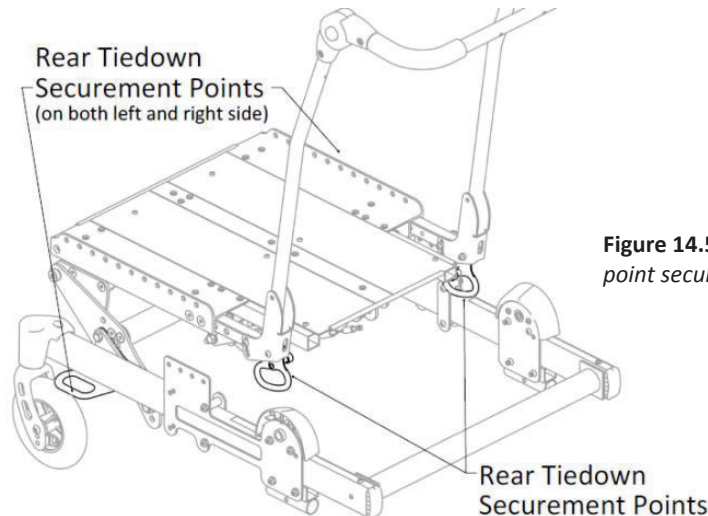

Figure 14.50: Transit Tiedown 4 point securement location.
4. The Stellar GL Transit Tiedown System is designed for a four-point (two front, two rear) strap-type tiedown system (Figure 14.50). Attach the WTORS in accordance with the manufacturer's instructions and RESNA WC-4:2012, Section 18 or ISO 10542-1:2012- Part 1.